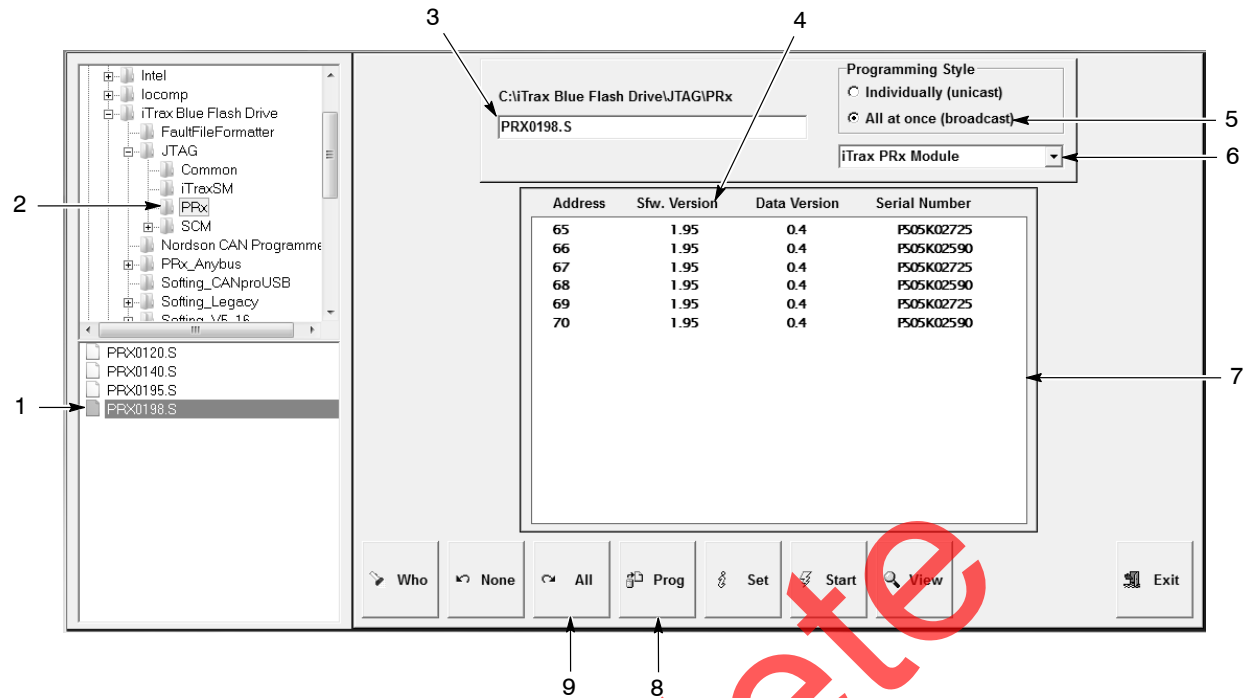

Figure 22 CAN Programmer Main Screen
See to Figure 22.
3. See Figure 22. Select *PRx Module* from the list box (6). Once selected, the module address listing (7) will show selections for the PRx.
**NOTE:** PRx software displays as *Sfw, Version 1.00* or greater (4). Modules without previously installed software will show as *Sfw, Version 0.00*.
4. Navigate to *C:\JTAG\PRx* folder (2).
5. Select the S-record file *Prx0198.S* (1) and the file name appears in the location field (3).
6. Select the *All at once (broadcast)* button (5) to allow all programs selected to update simultaneously.
7. Select the modules to be updated in the module address listing (7).
**NOTE:** If selecting all modules, use the *All* button (9) to quickly select all the listings.
8. Select the *Prog* button (8) at the bottom of the screen. Reprogramming the module should take about 1 minute. A progress bar will display indicating progress.